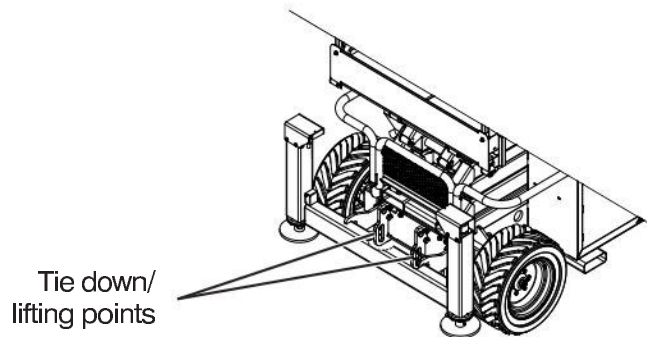

Figure 3-9. Tie Downs/Lifting Points
- The lifting/rigging must be attached to all four lifting points as illustrated in Figure 3-9.
**When transporting, the aerial platform must be secured to the truck or trailer deck. Tie downs are available as illustrated in Figure 3-9.**